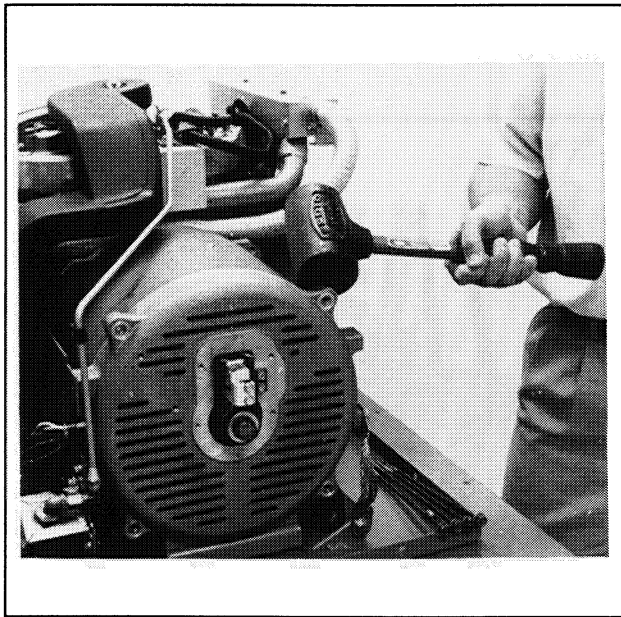

Figure 8-9. Loosening End Bracket
16. Use a rubber mallet to bump end bracket away from stator housing. See Figure 8-9.